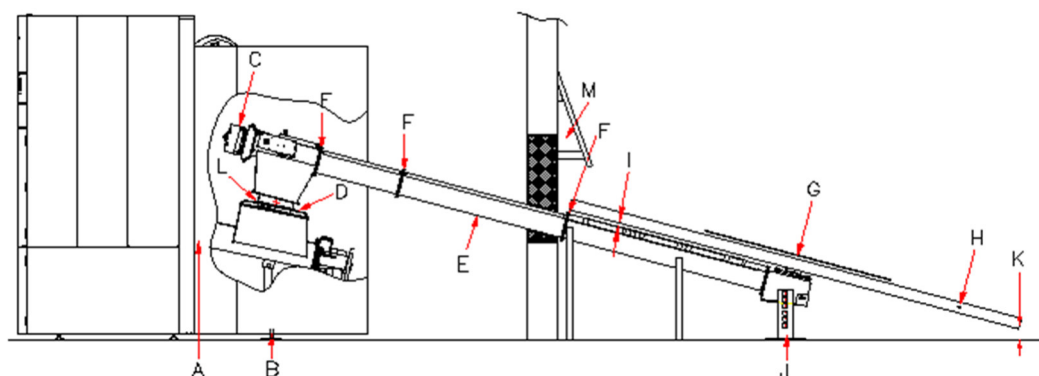

Fig: 5
18) The construction of the inspection hatch and the associated wall lining should be carried out as described below and will enable access to the storeroom for the purposes of removing any objects that may be jammed in the auger before the enclosed section of the auger trough. The hatch canopy constructed as per Fig. 5 prevents the stored fuel spilling out when the inspection hatch is opened.